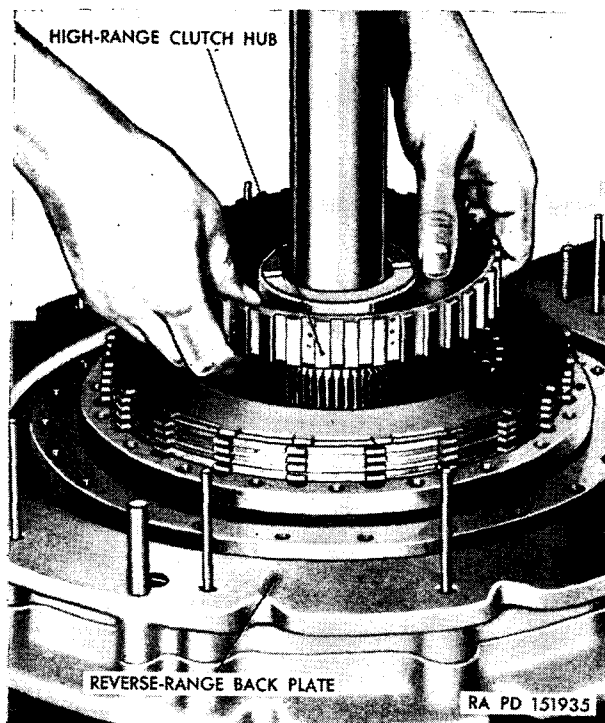
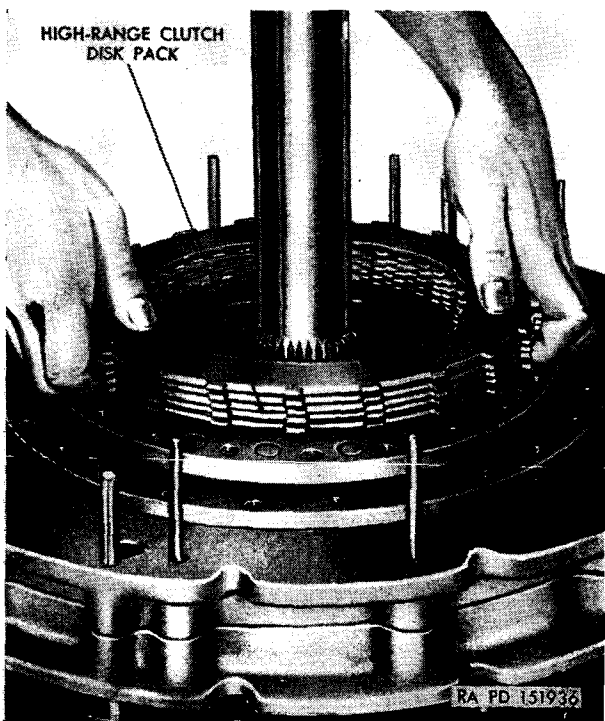

Figure 196. Removing or installing high-range-clutch hub.
Figure 197. Removing high-range-clutch disk pack.
- (2) Remove the thrust washer and lift out the high-range-clutch hub, (fig. 196) being careful not to drop the thrust washer. Lift out the high-range-clutch disk pack (fig. 197). Remove the thrust washer from the high-range pinion.